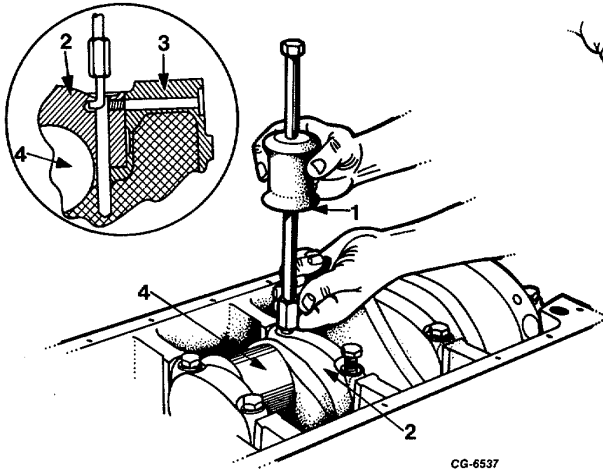

Fig. 72 Removing Main Bearing Cap
75. Using remover tool SE-2093 and slide hammer SE-1746, remove main bearing caps (numbers 1, 2, 3 and 4) by inserting hook end of remover tool in horizontal hole and toward centerline of crankshaft (Figure 72).